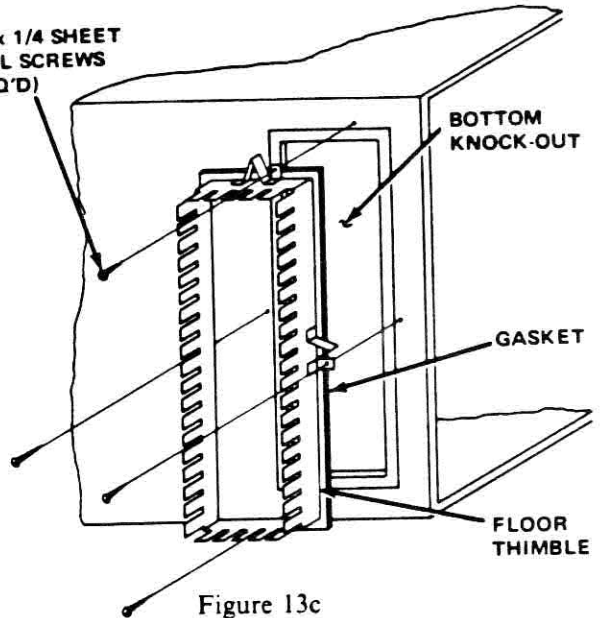

Figure 13c
7. Lay furnace on side and install the floor thimble. Installation of the floor thimble is demonstrated in Figure 13c.